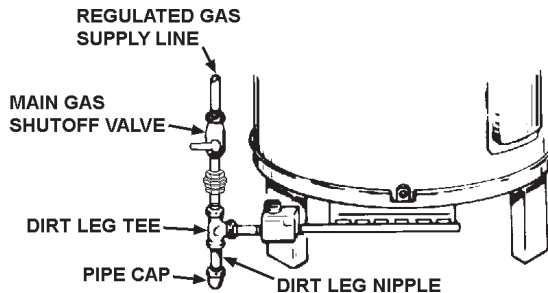

FIGURE 9
**TO TRAP ANY DIRT OR FOREIGN MATERIAL IN THE GAS SUPPLY LINE, A DIRT LEG (SOMETIMES CALLED SEDIMENT TRAP OR DRIP LEG) MUST BE INCORPORATED IN THE PIPING (SEE FIG. 9). THE DIRT LEG MUST BE READILY ACCESSIBLE AND NOT SUBJECT TO FREEZING CONDITIONS. INSTALL IN ACCORDANCE WITH RECOMMENDATIONS OF SERVING GAS SUPPLIERS. REFER TO THE LATEST VERSION OF THE NATIONAL FUEL GAS CODE.**